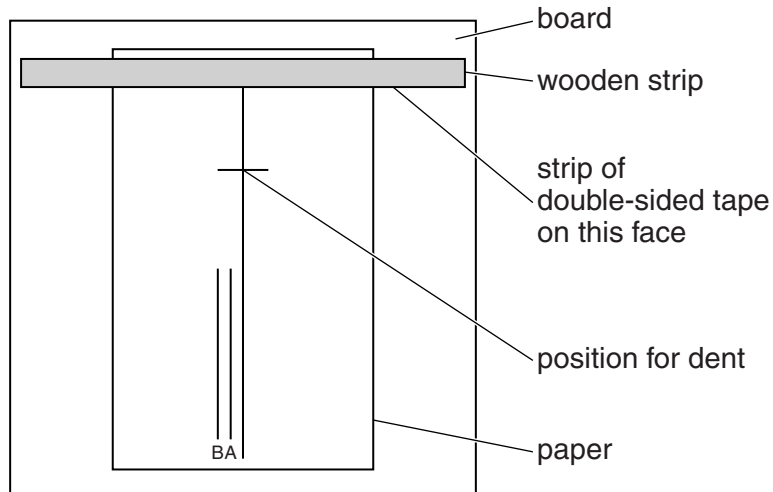

Fig. 2.2
- 2 Make a photocopy of page 8 and then lay it on the board and fix the wooden strip to the board and paper using double-sided adhesive tape, as shown in Figs. 2.2 and 2.3.
Use a nail to make a small dent (approximate diameter 2 mm) through the paper into the board at the position shown in Fig. 2.2.